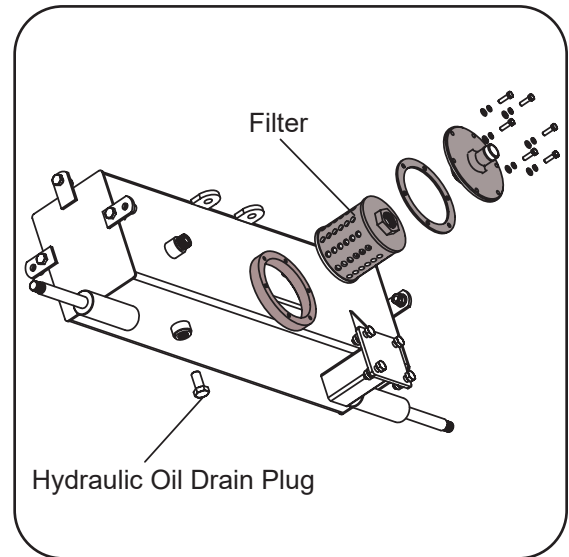

Figure 5-2
- 2) Carefully unthread the inlet filter and clean it with penetrating oil. See Figure 5-2.